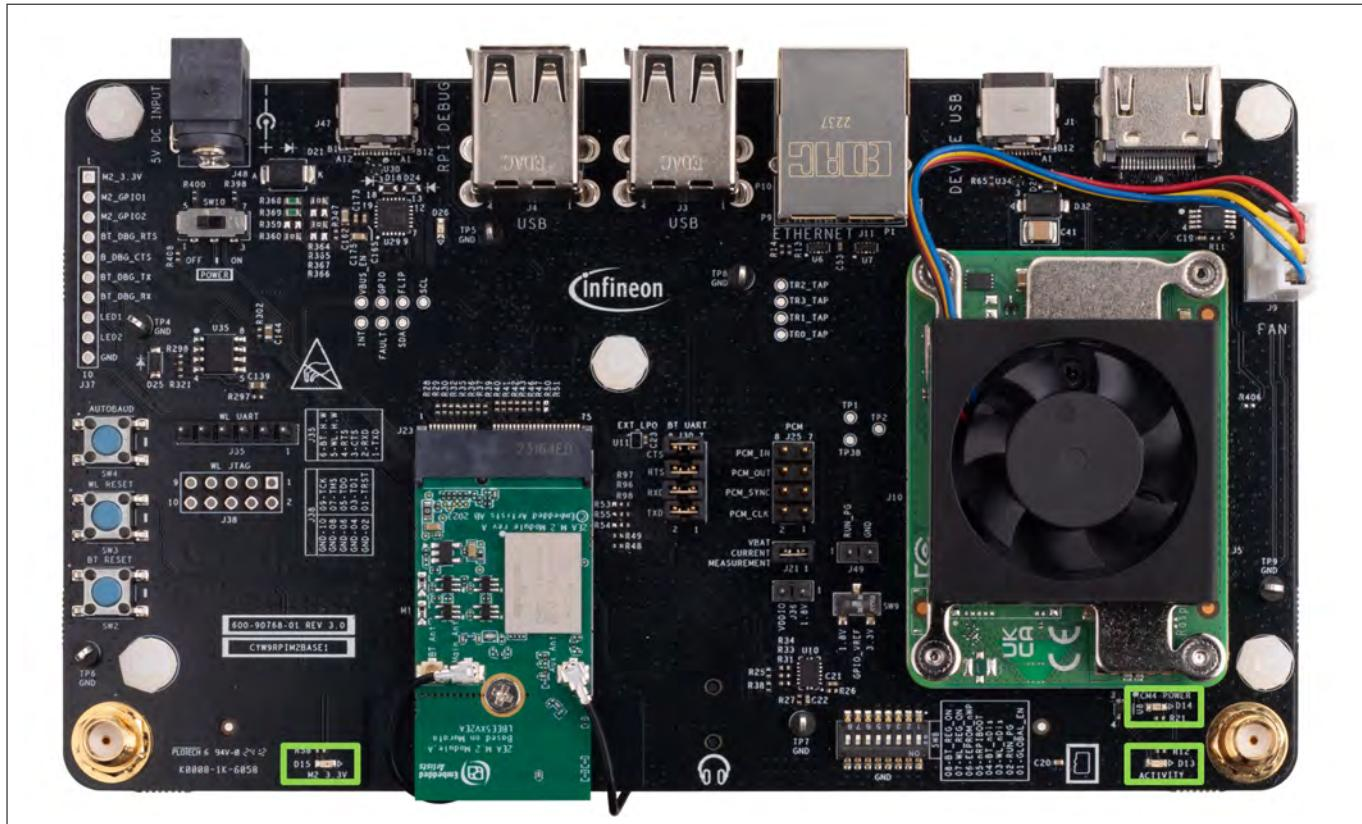

**Figure 2** CYW9RPIWIFIBT-EVK default jumper and switch setting
Before connecting the kit to the PC, ensure that all jumpers and switches on the baseboard are in their default configuration as shown in Figure 2 and specified in Table 4 to Table 8.
3. Ensure that the jumper and switch settings on the board are configured as shown in Figure 2 and specified in Table 3 to Table 8
2. Ensure that the jumper and switch settings on the board are configured as shown in Figure 2 and specified in Table 3 to Table 8